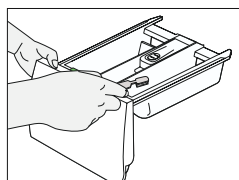
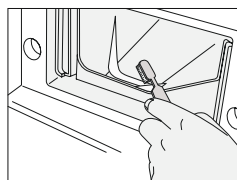

Fig.18
Fig.19
- Clean the drawer recess with a small brush. (Fig.18, Fig.19)